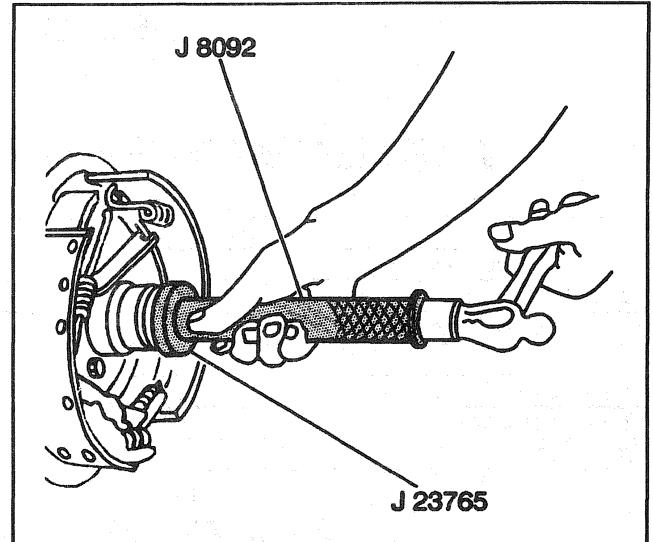

Figure 26—Installing the Axle Bearing
1. Bearing with J 23765 and J 8092 until the tool bottoms against the housing shoulder (Figure 26).